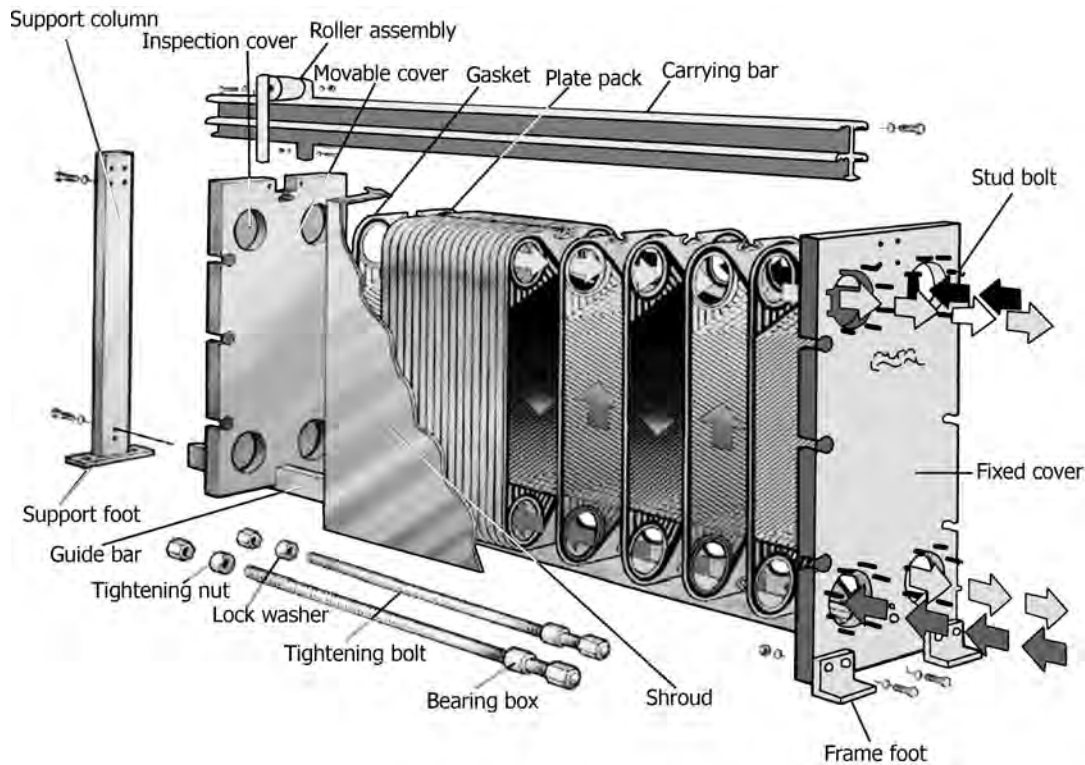

FIGURE 13.9 Construction of a typical plate heat exchanger. (Courtesy: Alfa Laval.)
- Figure 13.9 illustrates exploded view of a plate heat exchanger.